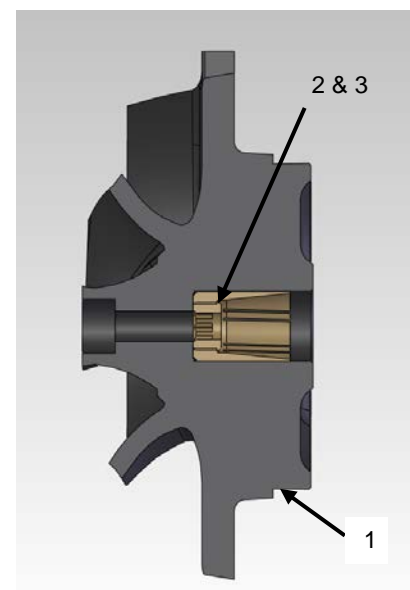

Figure 29 Impeller, sleeve and adjustment screw
Insert the taper sleeve (2) complete with adjustment screw (3) in its correct position into the impeller (1) (Figure 29).